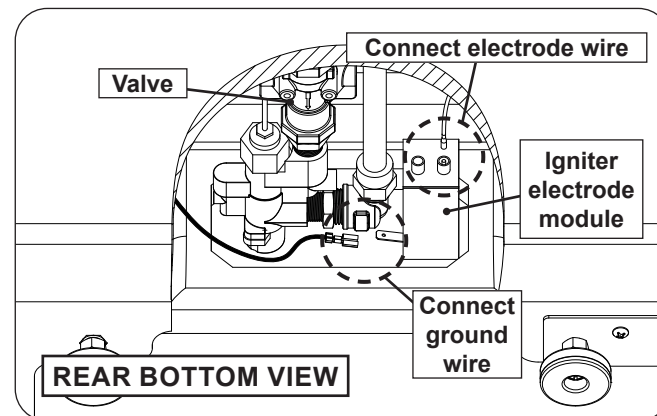

Fig. 35-3 Connect wires to electrode module
6. Locate the electrode wire and connect it to the round-pin terminal found on the back of the igniter electrode module. Then locate the ground wire and connect it to the 1/4" quick connect found on the side of the igniter electrode module (just behind the plate). See Fig. 35-3.